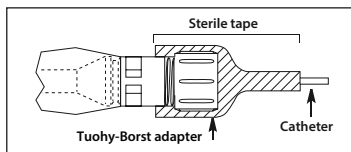

Figure 8
- Tuohy-Borst adapter end of catheter contamination shield should be secured with sterile tape to inhibit catheter movement (refer to Figure 8).